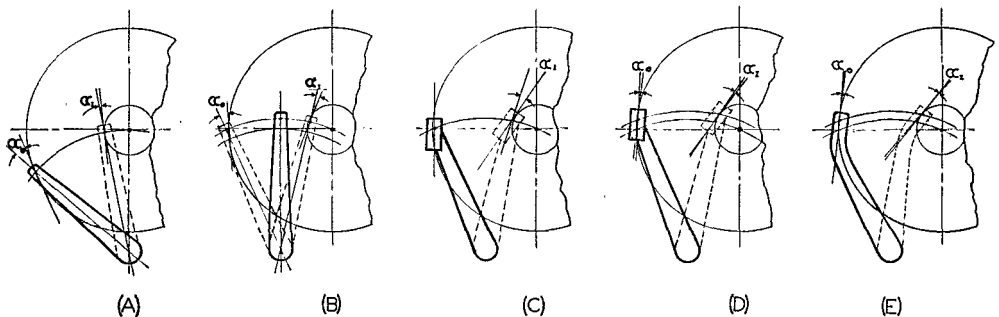

Fig. 4 — Tracking error with various types of pickup arms.
Curves (A), (B) and (C) relate to straight arms. Curve (A) shows error for 10-inch arm corresponding to Fig. 4-A. Curves (B) and (C) show error for 8- and 12-inch arms respectively when needle is aligned to track correctly near center of record, as in Fig. 4-B; these curves illustrate advantage of long pickup arm.
Fig. 4 illustrates how this error arises, and also how it may be minimized, first by properly plac-